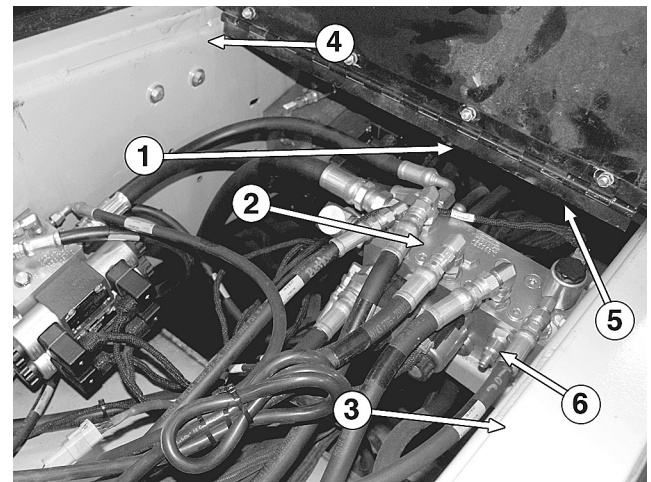
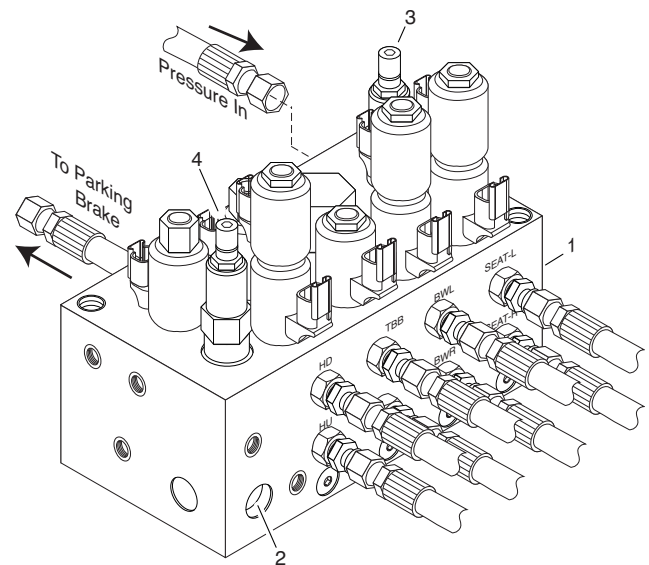

Figure 28. Spreadroll Speed Adjustment
Figure 29. Hydraulic Control Assembly
1) Install 2000 psi gage in "G" port of hopper manifold (Fig 29) located between the conveyors (Fig 28). This port is SAE 04 MB and requires a 3/16 allen wrench to remove the plug.
2) To adjust the speed, loosen the jam wheel on the spreadroll flow control valve (**Figure 26**) located between the conveyors (**Figure 28**). Turn the adjusting knob clockwise to decrease the speed of the spreadroll, or counterclockwise to increase the speed. Retighten the jam wheel.
2) To adjust the speed, loosen the jam wheel on the spreadroll flow control valve (**Figure 26**) located between the conveyors (**Figure 28**). Turn the adjuster knob clockwise to decrease the speed of the spreadroll, or counterclockwise to increase the speed.
3) If the pressure is low, remove cap from top of relief valve using vise grips (**Figure 29 Ref 3**) and adjust set screw clockwise using a 1/4" allen wrench. If pressure is high, adjust set screw counterclockwise.
3) If the pressure is low, remove cap from top of relief valve using vise grips (**Figure 29 Ref 4**) and adjust set screw clockwise using a 1/4" allen wrench. If pressure is high, adjust set screw counterclockwise.